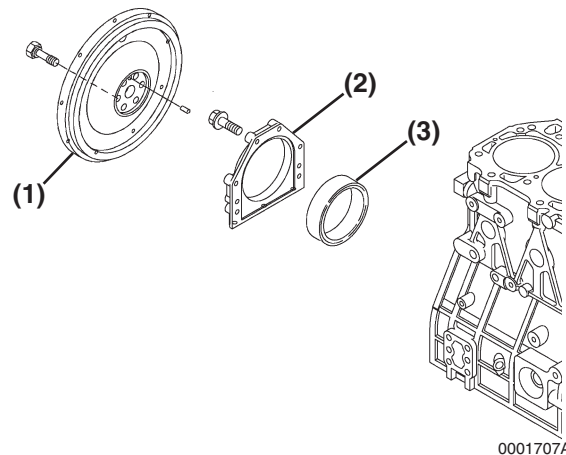

Figure 6-45
1. Remove the flywheel bolts from the flywheel (**Figure 6-45, (1)**). Lift the flywheel away from the engine.
2. Remove the bolts from the rear oil seal assembly (**Figure 6-45, (2)**). Remove the assembly from the engine. Thoroughly clean all sealant from the oil seal housing.
3. Remove the rear oil seal (**Figure 6-45, (3)**) if necessary.